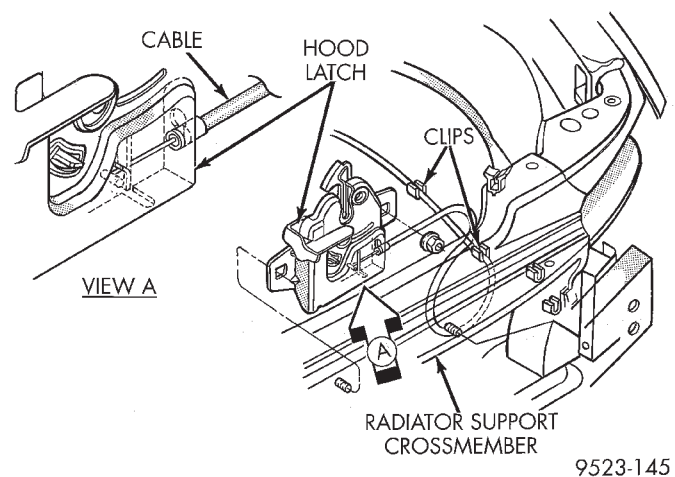

Fig. 18 Hood Latch
- (1) Release hood latch and open hood.
- (2) Mark outline of hood latch on radiator support crossmember to aid installation.
- (3) Remove nuts holding hood latch to radiator support crossmember (Fig. 18).
- (4) Separate hood latch from crossmember.
- (5) Disengage hood release cable casing from groove in latch housing.
- (6) Disengage cable end from hood latch release lever.
- (7) Separate hood latch from vehicle.